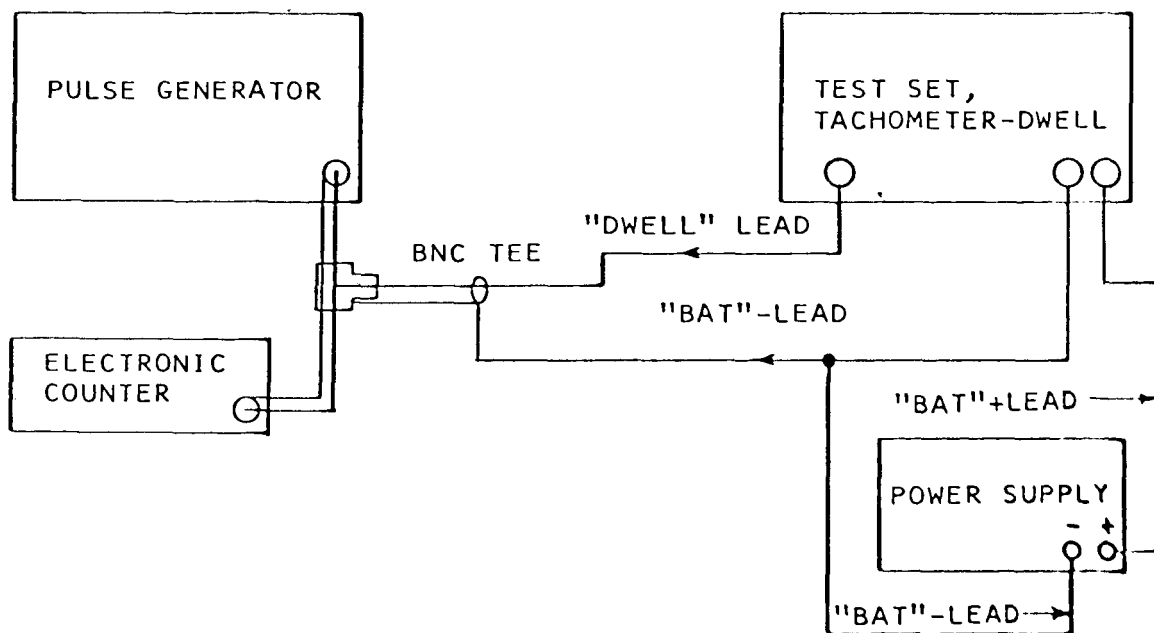

FIGURE. 6-2
- 5) Set up equipment as in figure 6-2. Leave unit under test set on 8 lobe position.